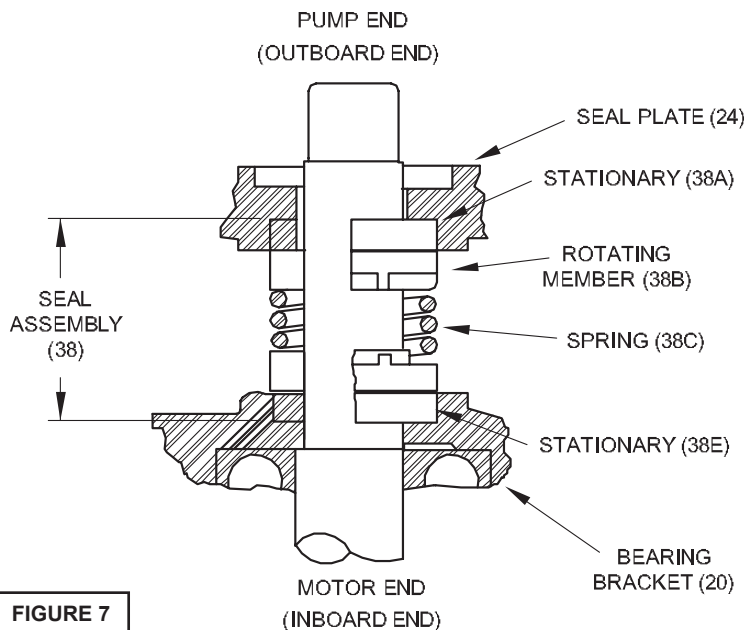

FIGURE 7
Seal - To expose shaft seal (38) for examination, complete above procedure and slide off outboard rotating member (38B) (see Figure 7). Remove inboard rotating member (38D), from shaft. Examine all seal parts and especially contact faces. Inspect seal for signs of wear such as uneven wear pattern on stationary members, chips and scratches on either seal face. **DO NOT** interchange seal components, replace the entire shaft seal (38).